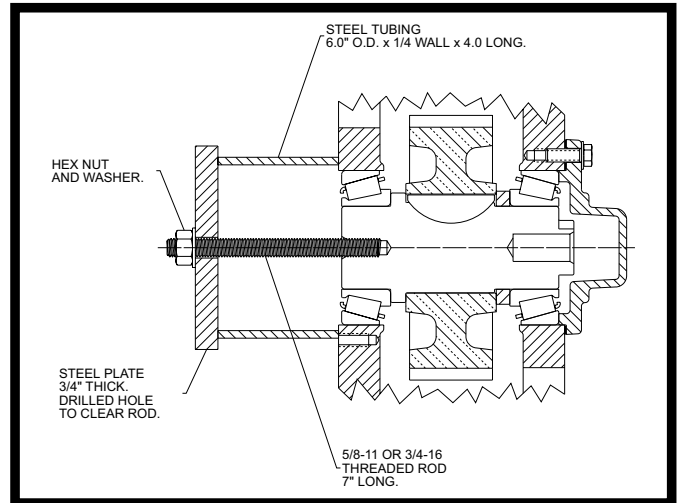

Fig 13
5. Remove the (6) cap screws and washers securing the front intermediate cap. Remove the cap and discard the gasket.
7. The gear and the rear bearing cone both have a press fit to the intermediate shaft. Therefore, a puller will be necessary to remove the shaft if damage is to be avoided. A sketch depicting a suitable fabricated puller is illustrated in Figure 13. Note that there are two shaft designs in use. The first production version uses a 5/8-11 threaded puller hole while later shafts have a 3/4-16 hole. Use the appropriate size threaded rod.